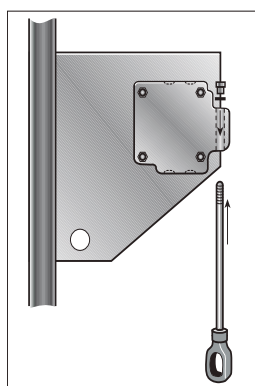

Figure 14
- 7.1 The motor override is factory fitted. See figure 14 for reference.